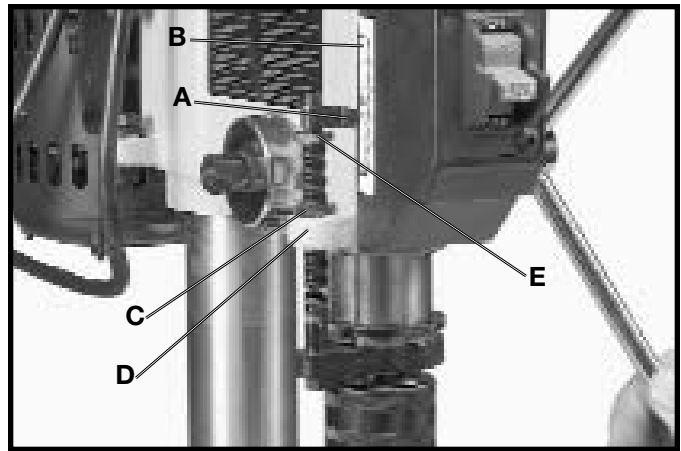

Fig. 25
1. Lower the spindle until the pointer (A) Fig. 25, lines up with the mark on the scale (B) you wish the depth to be. Then thread the lower stop nut (C) down to contact the depth stop (D) on the side of the head. Return the spindle to the up position and tighten the upper stop nut (E) against the lower stop nut (C).